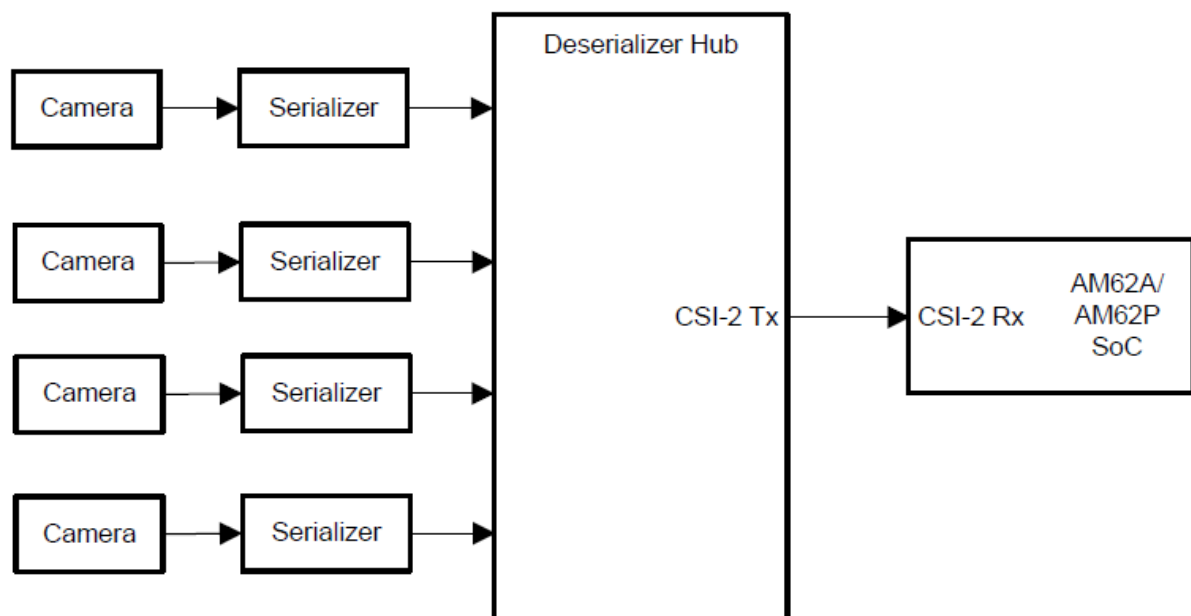
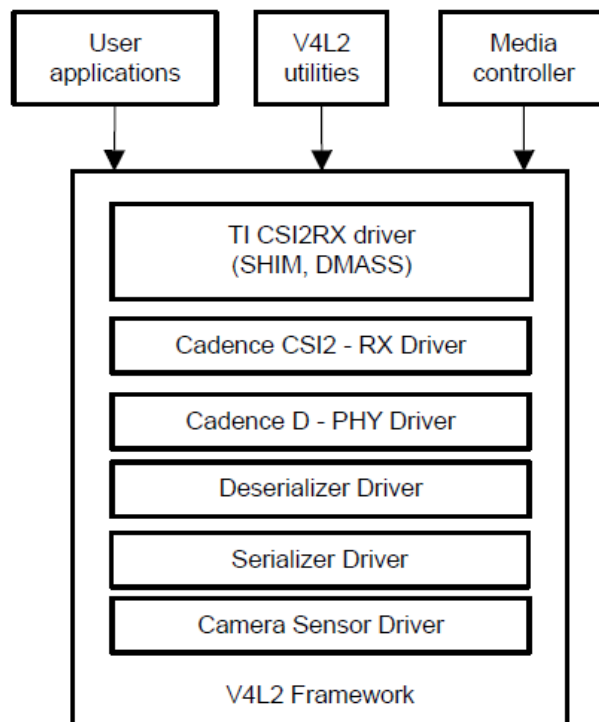

Figure 2-2. Connecting Multiple Cameras Using SerDes
Figure 3-1. High-Level Block Diagram of Camera Capture System Using SerDes
The FPD-Link or V3-Link serializers and deserializers (SerDes), supported in the AM6x Linux SDK, are the most popular technologies for this type of CSI-2 aggregating solution. Both the FPD-Link and V3-Link deserializers have back channels that can be used to send frame sync signals to synchronize all the cameras, as explained in [7]. Figure 2-2 shows an example of using the SerDes to connect multiple cameras to a single AM6x SoC.
Figure 3-1 shows a high-level block diagram of the camera capture system software in AM62A/AM62P Linux SDK, corresponding to the HW system in Figure 2-2.
- This software architecture enables the SoC to receive multiple camera streams with the use of SerDes, as shown in Figure 2-2. The FPD-Link/V3-Link SerDes assigns a unique I2C address and virtual channel to each camera. A unique device tree overlay should be created with the unique I2C address for every camera. The CSI-2 RX driver recognizes each camera using the unique virtual channel number and creates a DMA context per camera stream. A video node is created for every DMA context. Data from each camera is then received and stored using DMA to the memory accordingly. User space applications use the video nodes corresponding to each camera to access the camera data. Examples of using this software architecture are given in Chapter 4 – Reference Design.